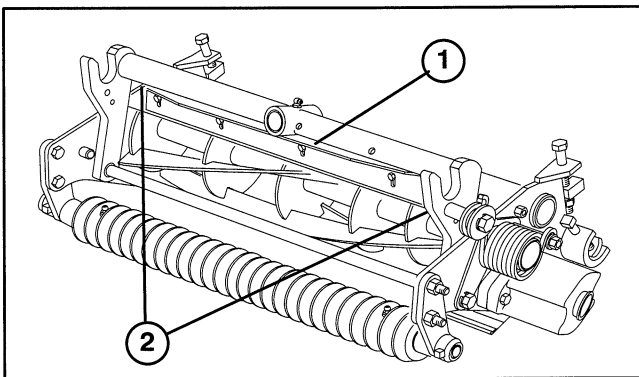

Figure 3
1. Set cutting unit in normal cutting position (Fig. 3).
2. Loosen capscrews and nuts securing shield to each side-plate, adjust shield to desired height and tighten fasteners (Fig. 3).